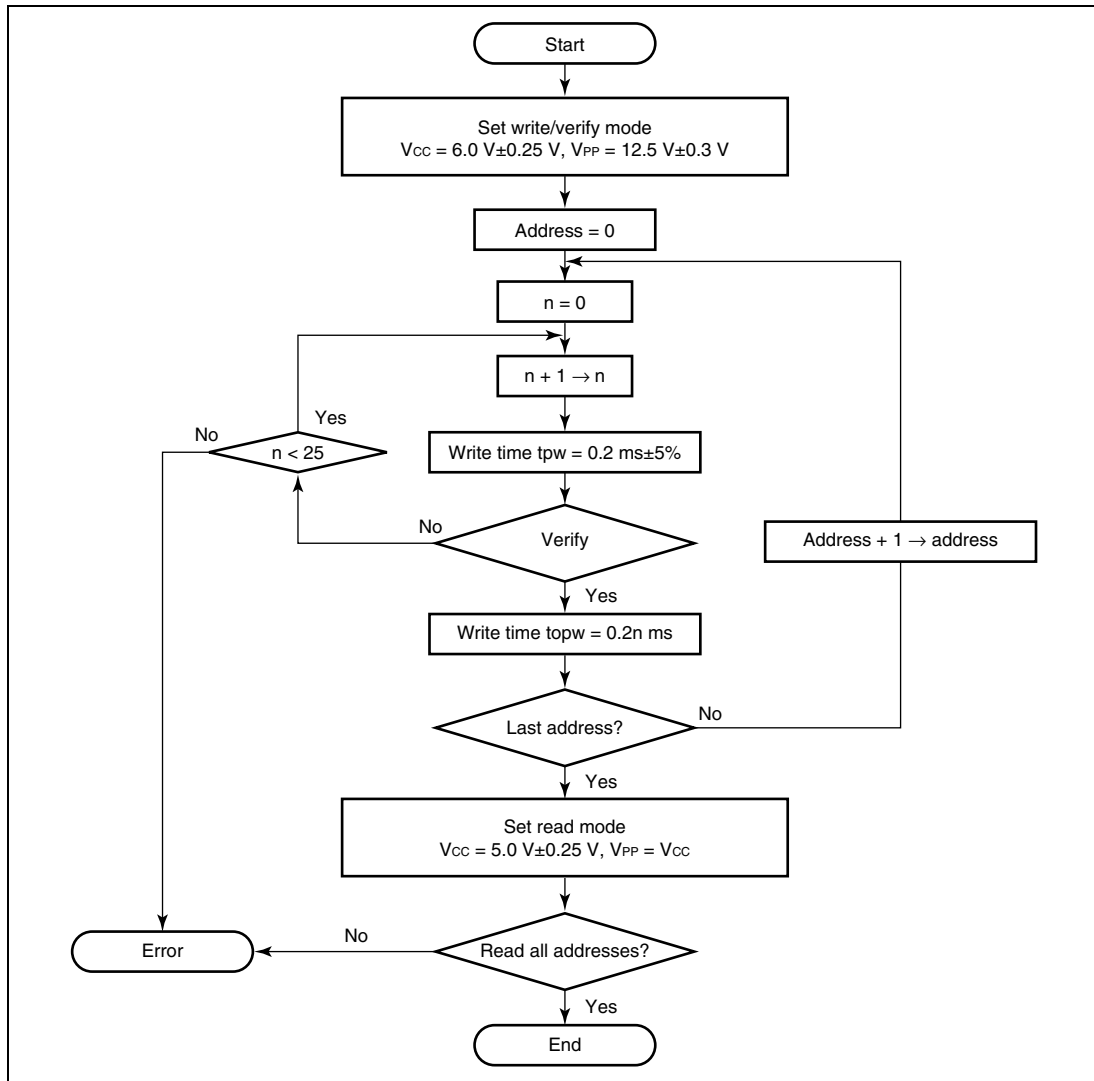

Figure 6.4 High-Speed, High-Reliability Programming Flowchart
The basic flow of this high-speed, high-reliability programming method is shown in figure 6.4.
3. t_{OPW} is defined by the value given in figure 6.4, High-Speed, High-Reliability Programming Flow Chart.
Note: * t_{OPW} is defined by the value shown in figure 6.4, High-Speed, High-Reliability Programming Flowchart.